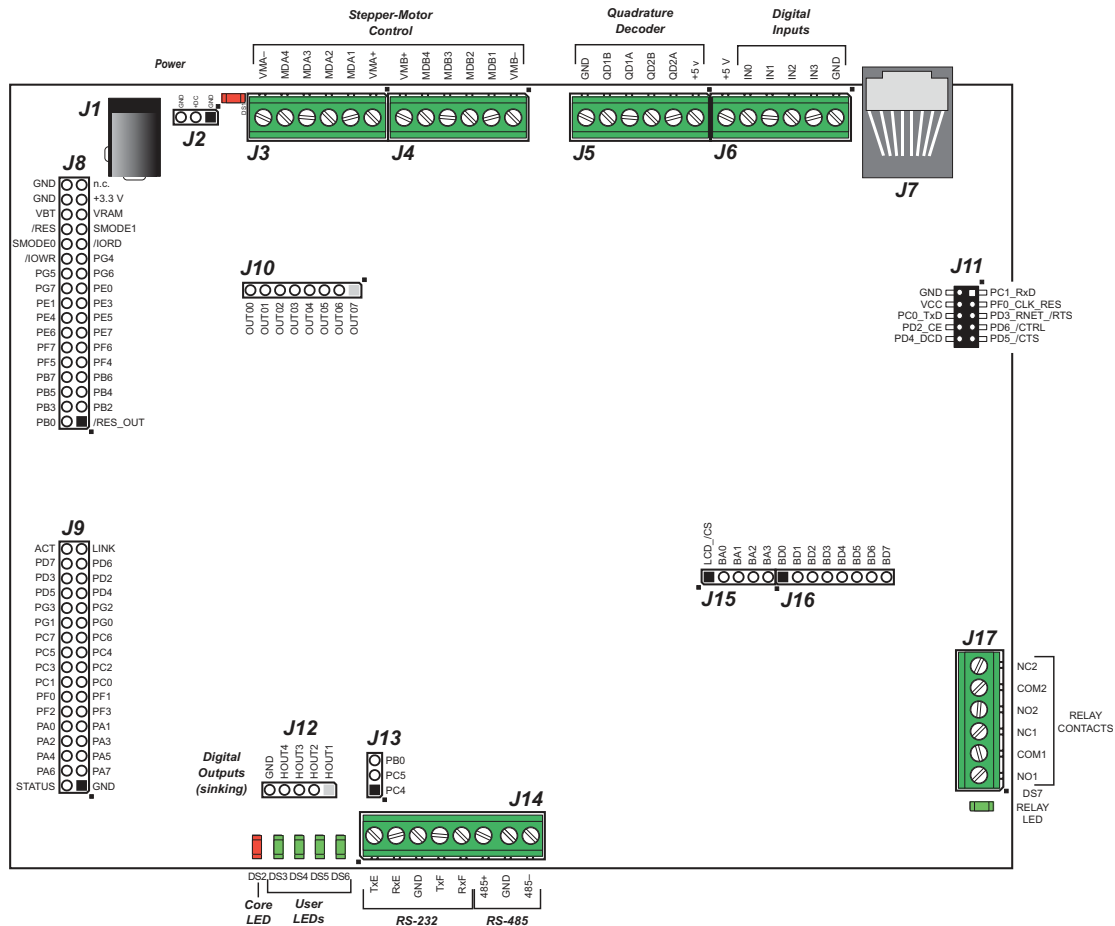

Figure B-4. Prototyping Board Pinout
- **Module Extension Headers**—The complete pin set of the RCM3360/RCM3370 module is duplicated at headers J8 and J9. Developers can solder wires directly into the appropriate holes, or, for more flexible development, 2 × 17 header strips with a 0.1" pitch can be soldered into place. See Figure B-4 for the header pinouts.
- **Digital I/O**—Four digital inputs are available on screw-terminal header J6. See Figure B-4 for the header pinouts.
- **Quadrature Decoder**—Four quadrature decoder outputs (PF0–PF3) from the Rabbit 3000 chip are available on screw-terminal header J5. See Figure B-4 for the header pinouts.
- **H-Bridge Motor Driver**—Two pairs of H-bridge motor drivers are supported using screw-terminal headers J3 and J4 on the Prototyping Board for stepper-motor control. See Figure B-4 for the header pinouts.
The Prototyping Board pinouts are shown in Figure B-4.